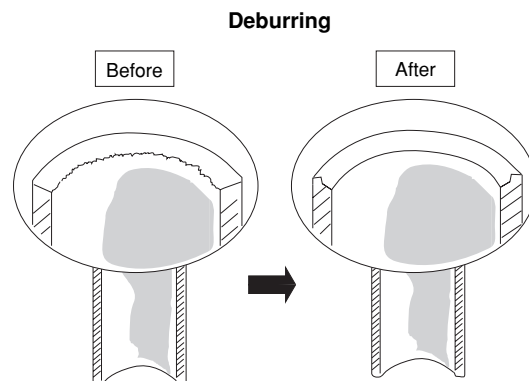

Fig. 47
- (1) Cut the copper tube to the required length with a tube cutter. It is recommended to cut approx. 12" to 20" (30 to 50 cm) longer than the tubing length you estimate.
- (2) Remove burrs at the end of the copper tube with a tube reamer or file. This process is important and should be done carefully to make a good flare. (Fig. 47)